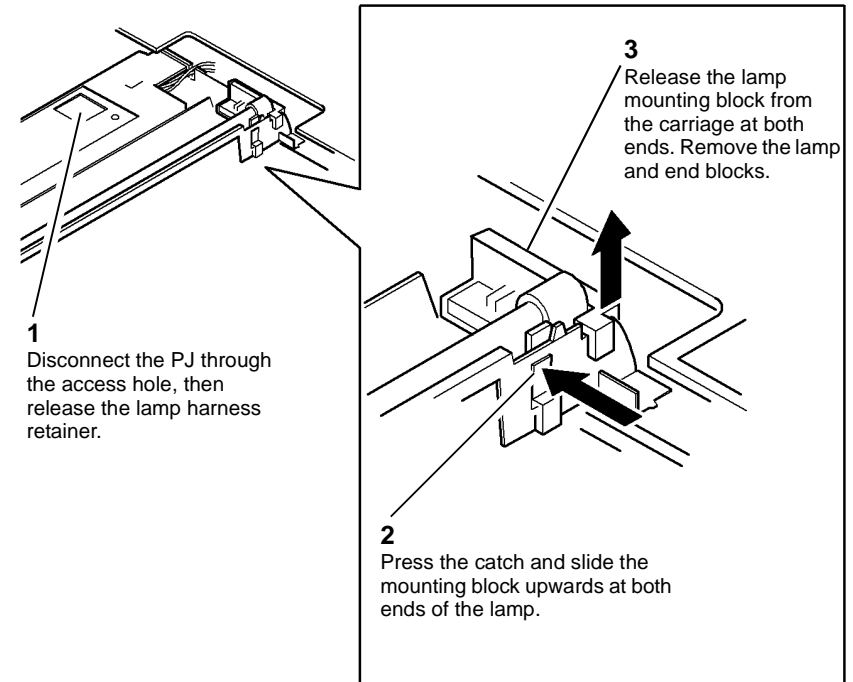

Figure 1 Releasing lamp fasteners
3. Remove the exposure lamp with the end blocks, Figure 1.